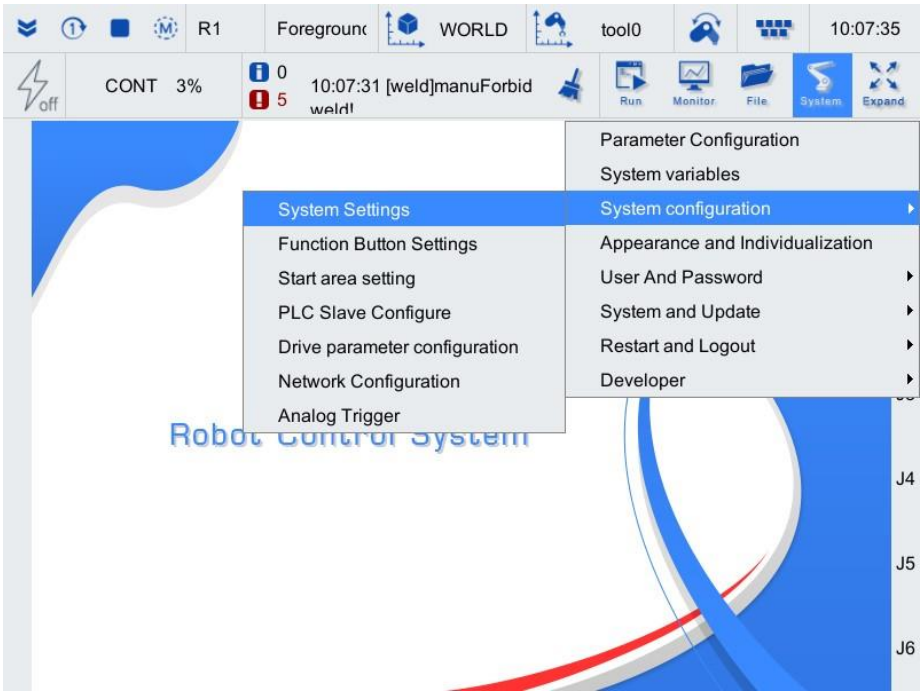

Figure 3-6 PLC slave configuration selection
Step1. On the main interface of the teach pendant, click the [System/System Configuration/PLC Slave Configuration] option, as shown in Figure 3-6.